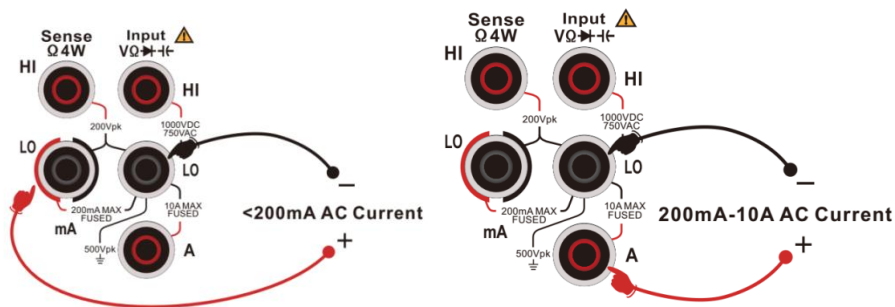

Figure 2-12 Connection of AC current measurement
- 2) Connect the multimeter to the measured circuit as Figure 2-12. When the current is <200mA, the red test lead should be connected to terminal mA while the black one should be connected to terminal Input-LO. When the current is 200mA-10A, connect the red test lead to terminal A, and connect the black one to terminal Input-LO.